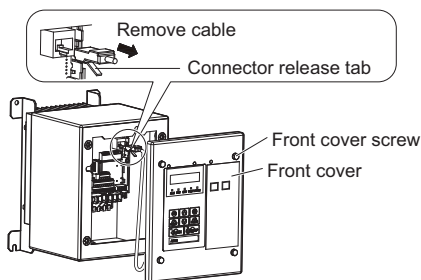

Figure 10 Removing the LED Operator Cable
1. Insert the LED operator cable into the correct port on the drive. Refer to the Figure 10.